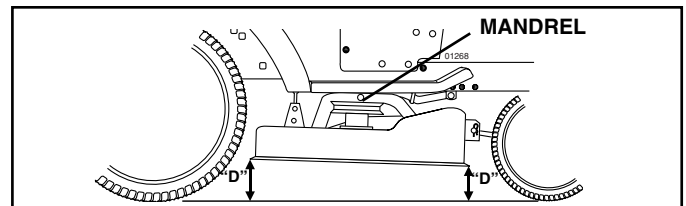

FIG. 16
**FRONT-TO-BACK ADJUSTMENT** (See Figs. 16 and 17)